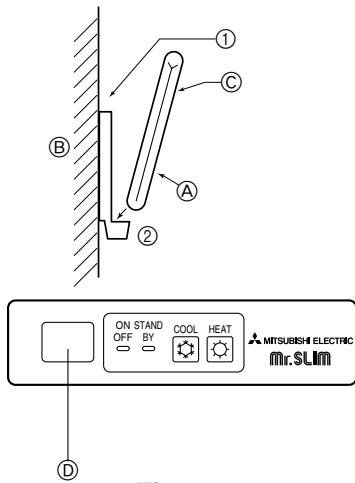
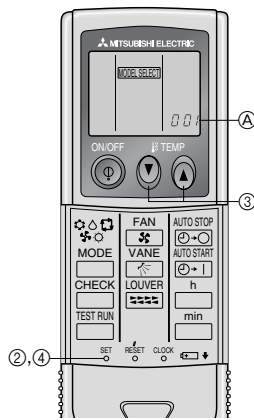

Fig. 6-2
Fig. 6-3
6.2.2. Installation method (Fig. 6-2)
- ① Attach the remote controller holder to the desired location using two tapping screws.
- ② Place the lower end of the controller into the holder.
6.2.3. Setting (Fig. 6-3)
- ① Insert batteries.
- ② Press the SET button with something sharp at the end.
- ③ Press the temp (▼) (▲) button to set the Model No.
- ④ Press the SET button with something sharp at the end.